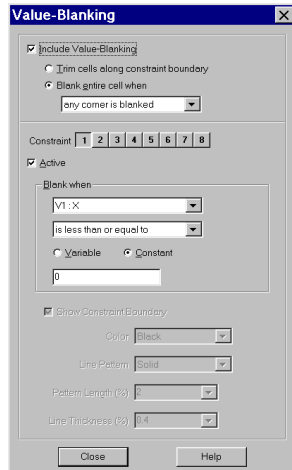

Figure 26-1. The Value-Blanking dialog when plot type is 2D or 3D Cartesian.
1. From the Plot menu, choose Blanking/Value-Blanking. The Value-Blanking dialog appears as in Figure 26-1.